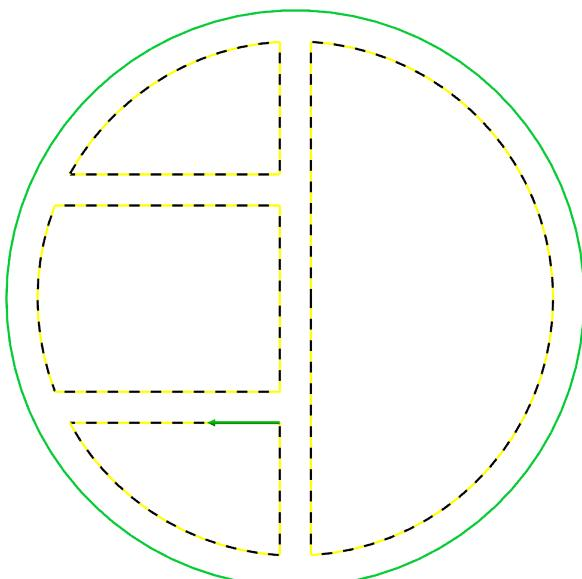

Fig. 22
Step 3. Chain geometry of each pocket, **Fig. 22**.